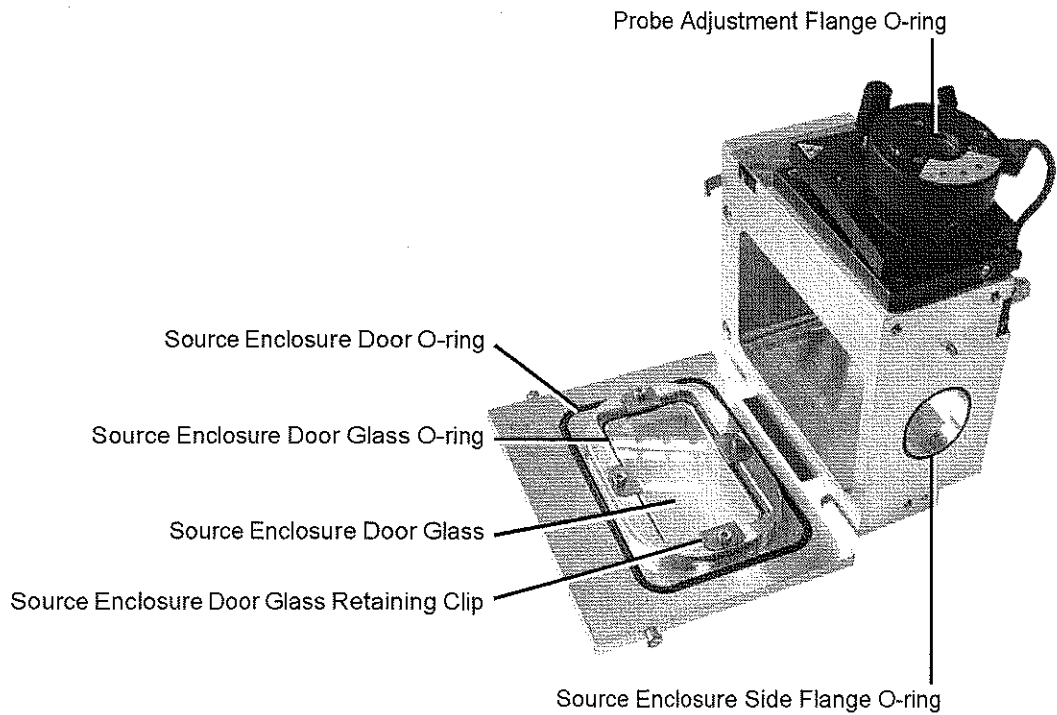

Figure 7-1 Source Enclosure and Probe Adjustment Flange
9. Use a jeweller's screwdriver to carefully remove the following from the source enclosure (see Figures 7-1 and 7-2):
10. Use a hex (Allen) key to remove the four bolts securing the source enclosure door glass retaining clips to the source enclosure door (see Figure 7-1).
14. Use a jeweller's screwdriver to carefully remove the probe adjustment flange O-ring from the probe adjustment flange (see Figure 7-1).